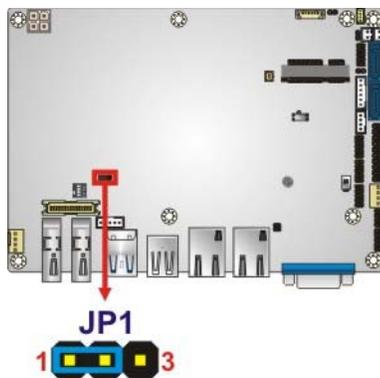

Figure 4-13: LVDS Voltage Selection Jumper Location
- Jumper Location:** See Figure 4-13